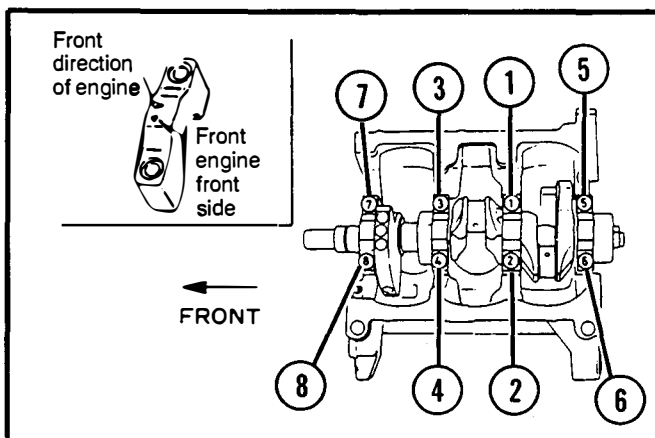

Figure 21.
4. Install the crankshaft bearing cap with crankshaft lower bearings. Apply a small amount of assembly grease to the threaded portion of each mounting bolt. Install the bearing cap with its front mark facing toward the front side. Torque bearing caps in sequence shown. See Figure 21.